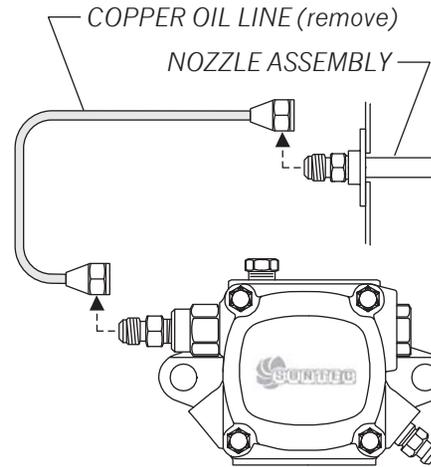

Figure 1.
5. Remove the copper oil line between the pump and the nozzle assembly, see Figure 1.